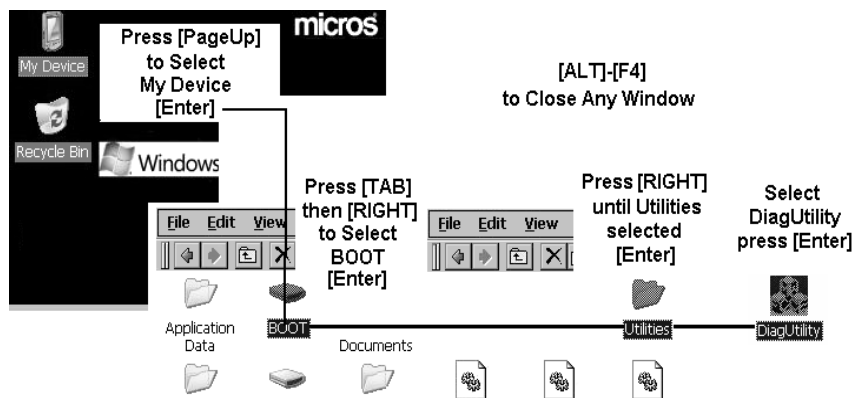

Figure 4-1: Starting the DiagUtility from the Keyboard
1. To start the KW270 DiagUtility from the desktop, see the illustration below. You can use the keyboard to select My Devices and navigate to the BOOT\Utilities folder and start the DiagUtility. This sequence is illustrated in Figure 4-1, below.